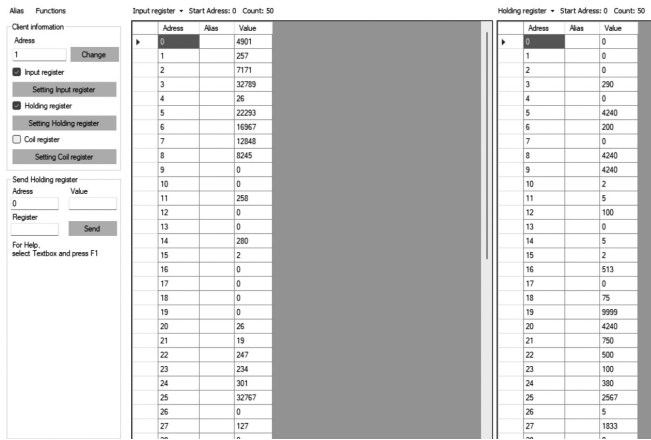

Fig. 9 — ZA “Easy Modbus” Window
6. The “**Easy Modbus**” window will appear (see Fig. 9). From this window, you can set parameters for Modbus, BACnet, and 0-10V controls.